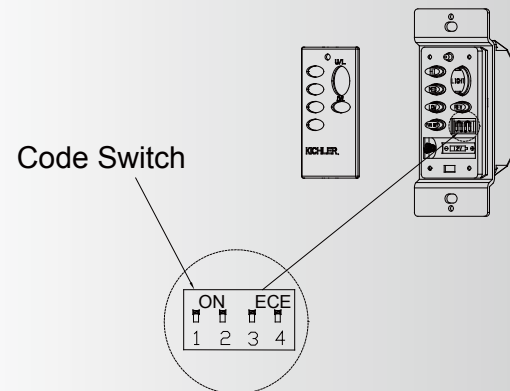

Fig. 29
Step 3. You can leave the frequency switches at the factory setting. Or you have to change the dip switch setting in the remote if you are using more than one fan in the same area and want to control them separately. Remove the battery and change the dip switch setting, assuring that they are different from the other fans. Reinstall the battery and switch plate on the control. (Fig. 29)